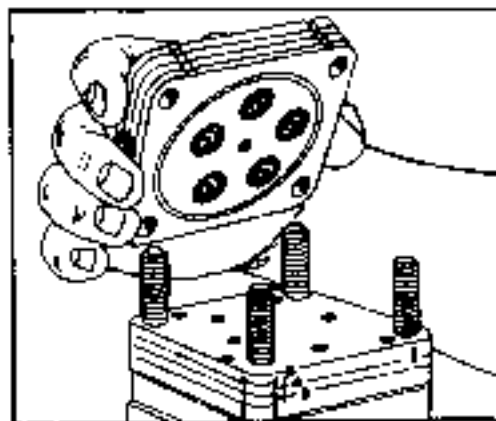

FIGURE 6.
4. Grasp the port cover (2) assembly (four plates bonded together) and lift it from the unit. Discard the four or five O-rings (4) and seal ring (3). See figure 6.